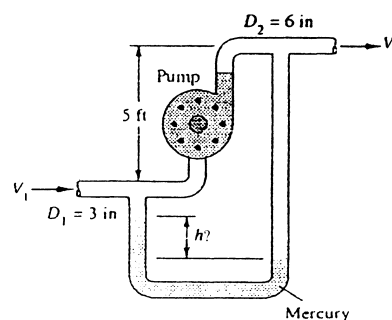

Fig. P3.146
**3.146** Kerosene at  $20^\circ\text{C}$  flows through the pump in Fig. P3.146 at  $2.3 \text{ ft}^3/\text{s}$ . Head losses between 1 and 2 are 8 ft, and the pump delivers 8 hp to the flow. What should the mercury-manometer reading  $h$  ft be?